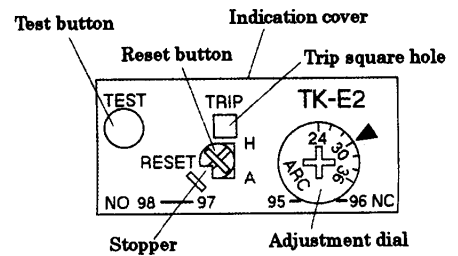

Fig. 4
- Turn the adjustment dial within the dial gradations so that the current loaded to the motor is at the ▼ mark. (Fig. 4)
- If the test button is pulled out, the sequence check starts. If it is depressed, only the NC contact (95-96) is opened. If it is released, the NC contact is closed again. (Fig. 4)
- If the thermal overload relay operates, first remove the cause of failure such as overload, and then lightly press the reset button to reset it. (In this case, the thermal overload relay cannot be reset, if it is not cooled sufficiently.) (Fig. 4)
- When the thermal overload relay operates, the trip square hole displays a yellow sign. If the thermal overload relay is reset, indication disappears from the square hole. (Fig. 4)